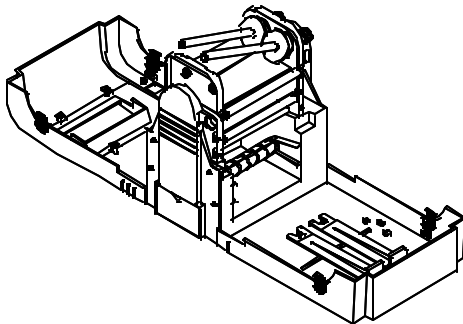

Fig. 2.2.2
2. By pressing toward the cap-side, take out the ribbon supply spindle (part 8) and the rewind spindle (part 7). (see figure 2.2.2)